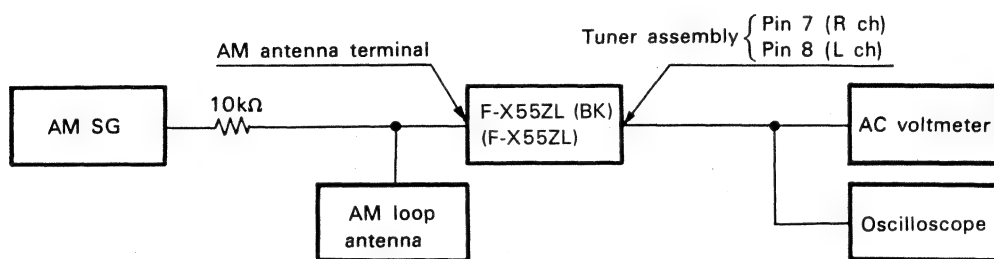

Fig. 12-2 AM adjustments connection diagram
- Connect up as indicated in Fig. 12-2.
- Press the AM (LW) key to set AM (LW) mode.